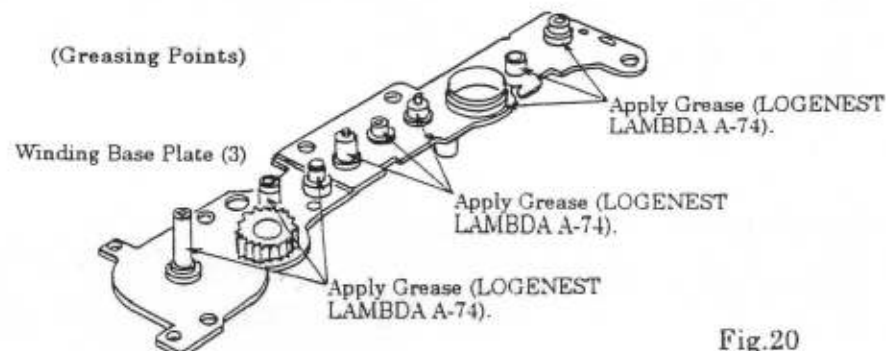

Fig.20
- Apply Grease (LOGENEST LAMBDA A-74) as shown in Fig. 20.
- After installing the Winding Base Plate Ass'y, turn the Winding Gear (5) (1AS33710) with your hand and make certain that each gear turns smoothly without being caught.